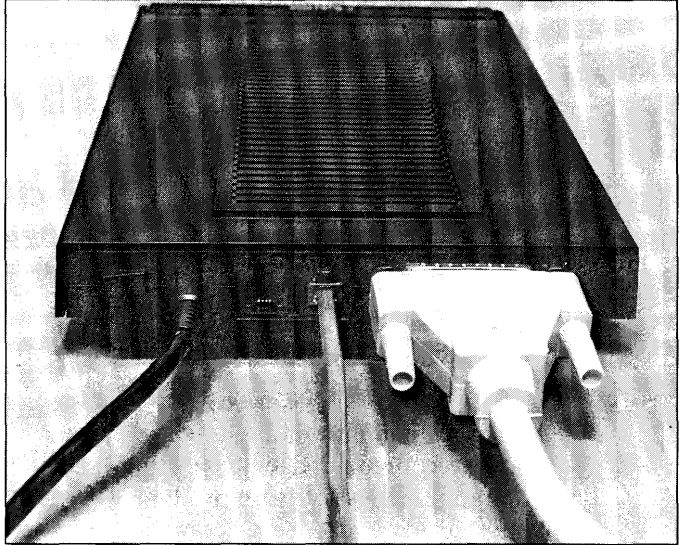

Figure 2.3—Connected Courier Modem
3. Now review the attached interfaces in Figure 2.3.